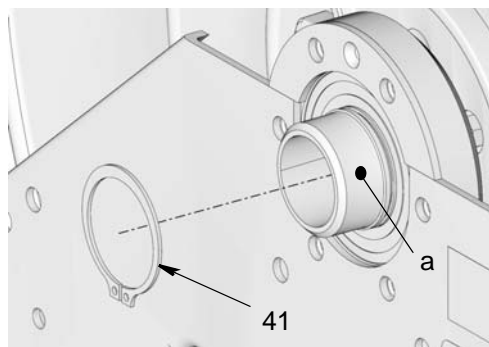

FIG. 18
- a. Use a snap ring pliers to remove snap ring (41) (FIG. 18).